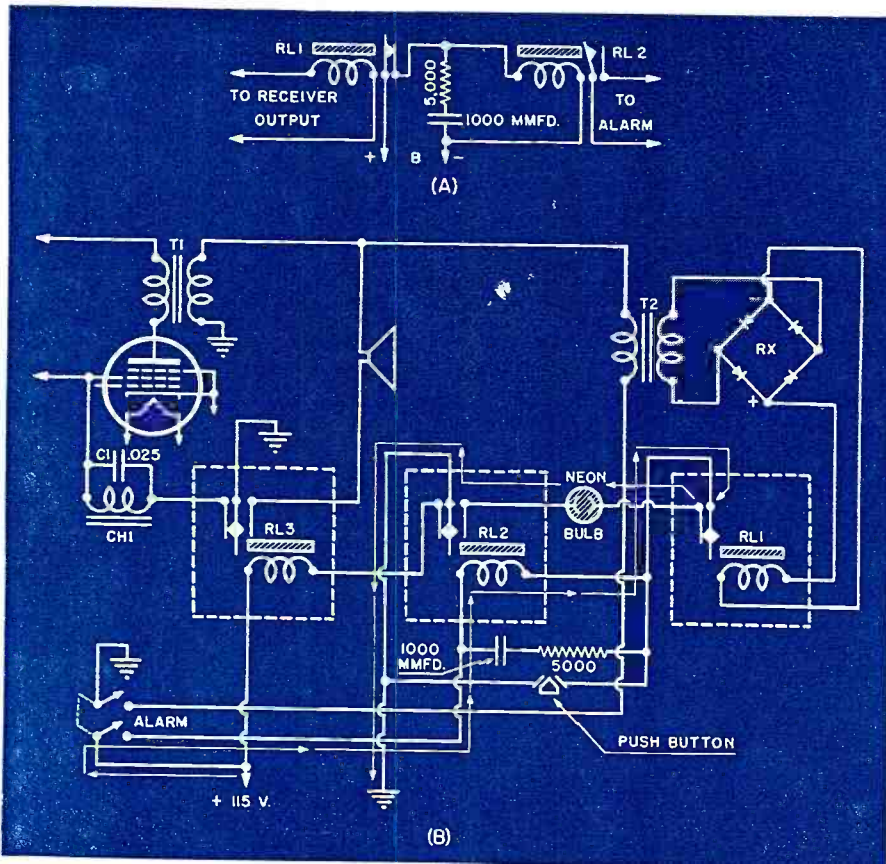

Fig. 1. The Vickerson-Gray alarm system with its basic circuit shown at the top.
closes the alarm circuit. The time period is determined by the capacity of the condenser and the resistor in series with the resistance of the field of the second relay. This condenser has an action which is similar to that of a storage battery. For circuit diagram refer to Figure 1(A).
maximum efficiency results. For, for instance, to obtain sufficient voltage to operate the first relay in the Vickerson-Gray system shown in Figure 1 (B), it was necessary to insert a step-up transformer T2, which is a plate-to-5-ohm voice coil transformer. And, instead of connecting it as usual, it was connected in reverse. To make the operation of this relay consistent, rectification was used. This was done by rectifying the output of the step-